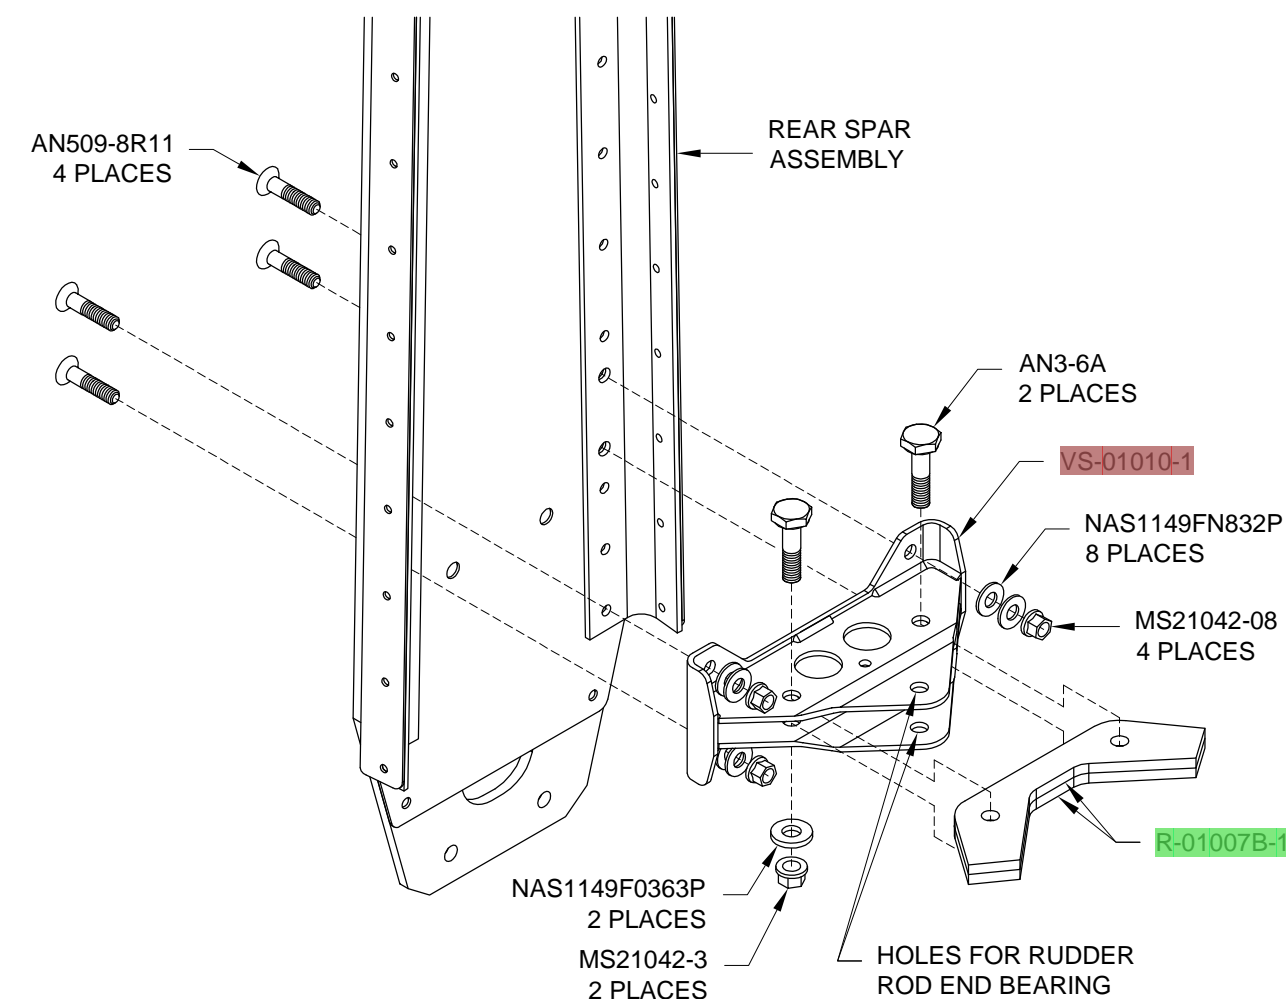

**FIGURE 1: RIB RIVETS**
Step 1: Attach the parts shown in Figure 1 using the rivets called out. Leave the **VS-1004** Bottom Inspar Rib and the **VS-1005** Bottom Nose Rib clecoed to allow removal for access to the interior.
Step 1: Cleco the **VS-1001** Vertical Stab Skin to the skeleton. Use plenty of clecos to keep the parts aligned while riveting. Figure 1 provides rivet sizes for the vertical stab skin.